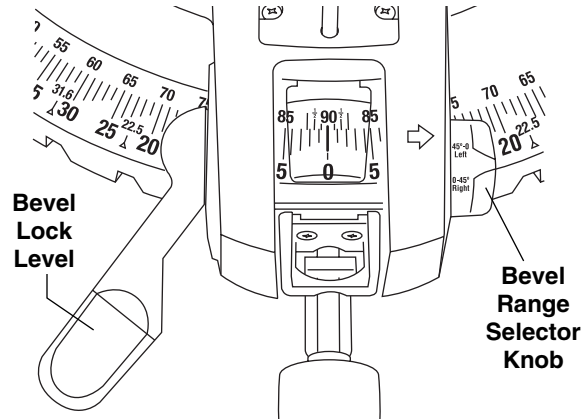

Figure 1.
Choose the desired bevel range using the bevel range selector knob (Figure 1).
- b. Lift bevel lock lever to release bevel lock (Fig. 1).